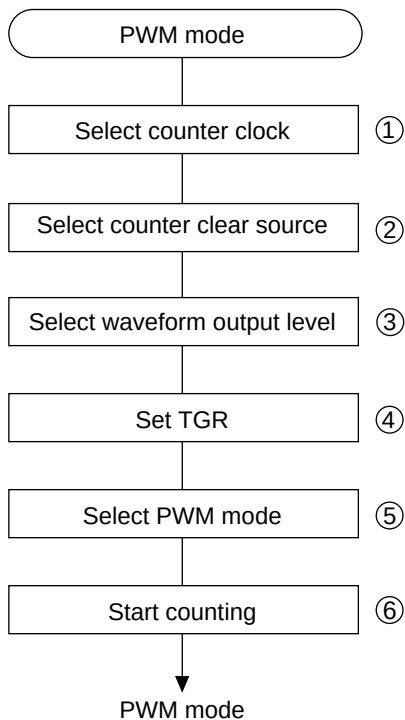

**Figure 12.24 Procedure for Selecting the PWM Mode**
**Procedure for Selecting the PWM Mode (Figure 12.24):**